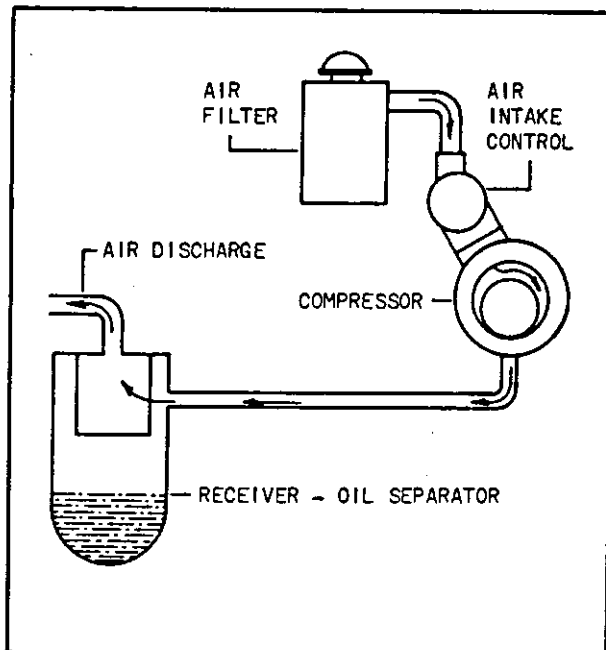

Figure 1-1. Air cycle schematic diagram
**a. AIR CYCLE.** (See figure 1-1.) Free air is drawn into the stator through the air cleaner and intake control. The air enters through large ports in the end cover at a point where the vanes are well out of the rotor slots, thus filling the space segments between the vanes with air. In rotation, the vanes are moved radially inward in their slots by the bore wall. The volume between the vanes decreases, thus compressing the trapped air. At the rated point of compression, the discharge ports are reached and the compressed air passes into the discharge chamber. Oil is injected during the above cycle to cool the air, seal all leakage and lubricate all rubbing parts. The discharge chamber is positioned at the bottom of the stator to favor natural oil drainage.